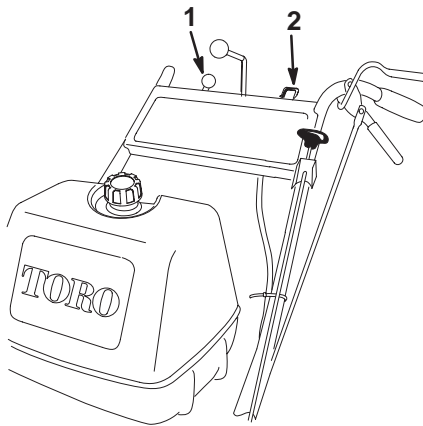

Figure 21
1. Move the throttle lever to "SLOW" (Fig. 21).
5. Turn the ignition key to "OFF" (Fig. 21).